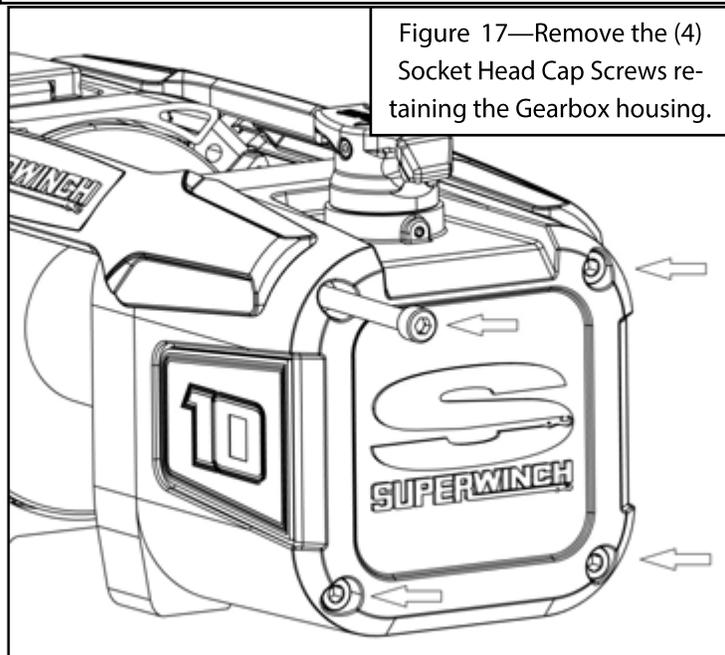

Figure 17—Remove the (4) Socket Head Cap Screws retaining the Gearbox housing.
5. With the winch still standing remove the (4) M8 Socket Head Cap screws retaining the Gearbox Cover to the Drum Support. See Figure 17.